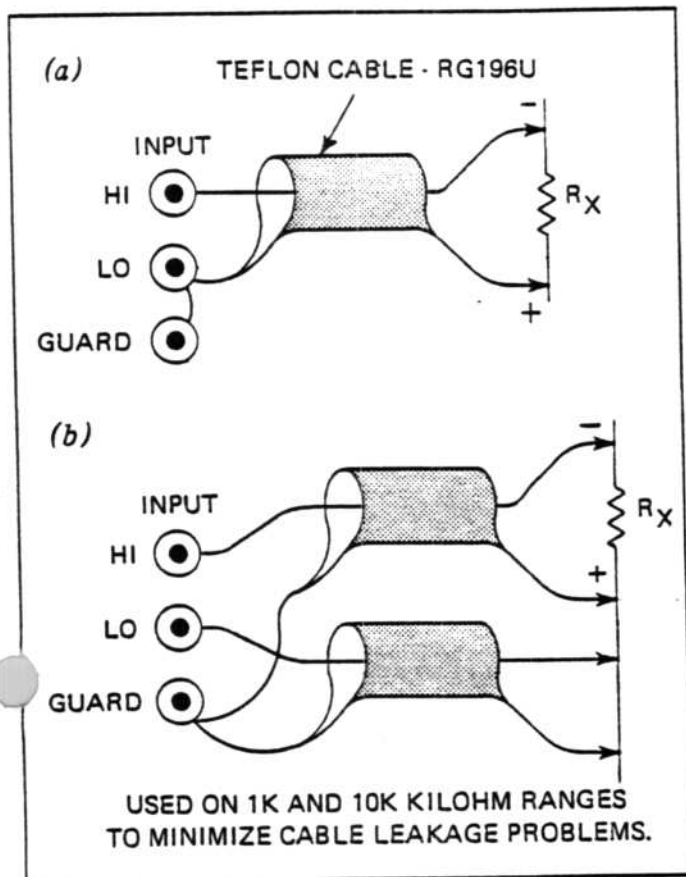

Figure 3.6 - 2-Wire Ohms Measurement
3.4.6.2 The 5001 provides automatic 2-wire or 4-wire ohms operation (refer to Figures 3.6 and 3.7). This means that if the unknown resistance is connected only to the two INPUT terminals, the measurement will be in 2-wire. If an additional set of leads are used to connect the unknown resistance to the 4-wire terminals as well as INPUT terminals, the measurement will be made in a 4-wire configuration. For 4-wire measurements, rated accuracy (+ 1 digit) can be obtained on the top five ranges as long as the maximum lead resistances given in Table 3.2 are not exceeded. For 2-wire or 4-wire measurements on the .1 k Ω range, zero must be set by the Null function to obtain rated accuracy. Use the 5001 to measure resistance as follows: